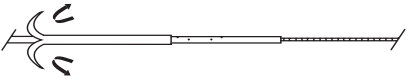

Fig. 3
c) After the initial advancement of the catheter over the wire guide, pull back and peel away the straightener for catheter advancement. (**Fig. 3**)